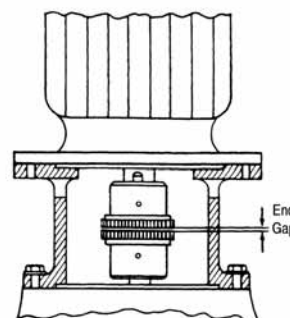

Figure 5. End Gap
- (d) Using a feeler gauge, check the actual end gap (Figure 5) to verify that it is within the limits given in Table 1. If it is not, loosen the hub key set screw and move the hub up or down until the end gap is within limits. Retighten the set screw.